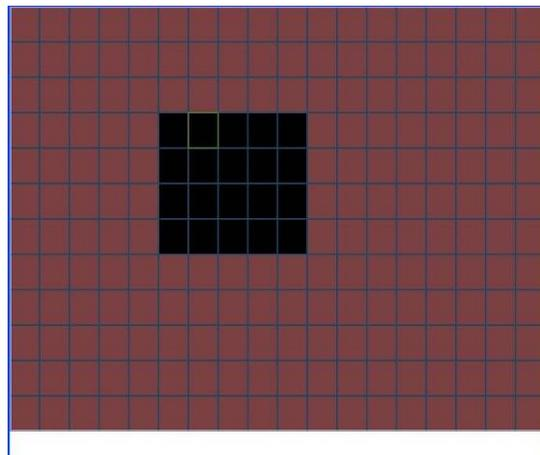

Figure 4-15
- Region: Click select button, the interface is shown as in Figure 4-15.Here you can set motion detection zone. There are 396(PAL)/330(NTSC) small zones.
In Figure 4-15, you can left click mouse and then drag it to set a region for motion detection.